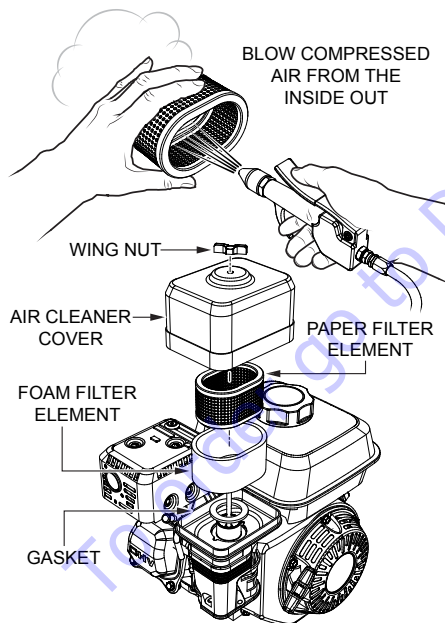

Figure 33. Engine Air Cleaner
1. Remove the air cleaner cover and foam filter element as shown in Figure 33.
2. Tap the paper filter element (Figure 33) several times on a hard surface to remove dirt or blow compressed air [not exceeding 30 psi (207 kPa, 2.1 kgf/cm²)] through the filter element from the air cleaner case side. **NEVER** brush off dirt. Brushing will force dirt into the fibers. Replace the paper filter element if it is excessively dirty.